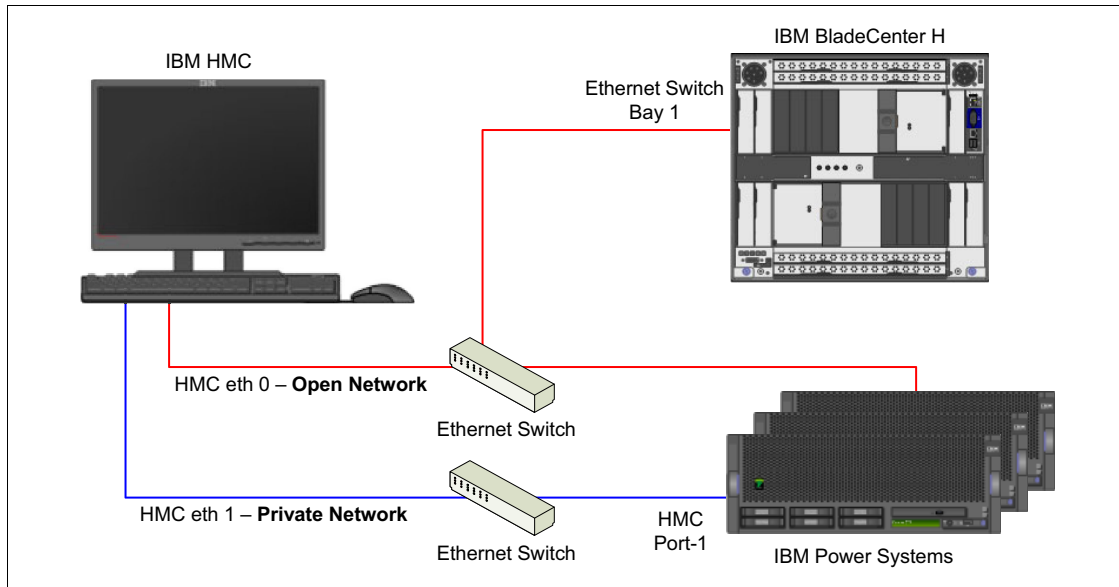

Figure B-1 HMC networks diagram
4. Connect the HMC *open network* to the BladeCenter Ethernet switch in Bay 1, as shown in Figure B-1.